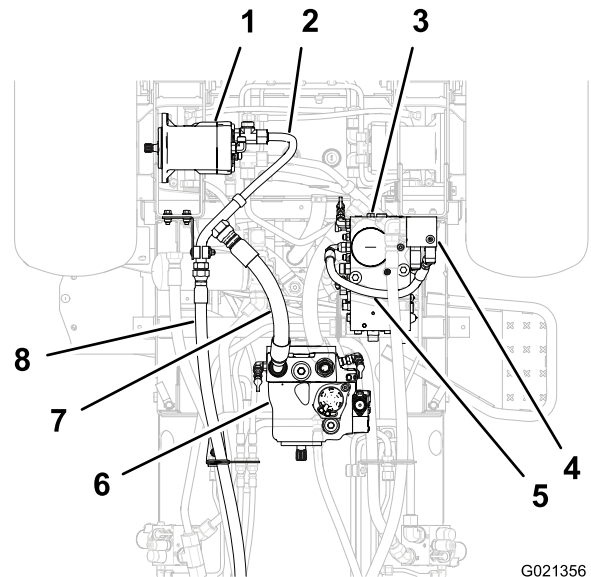

Figure 1
1. Align a drain pan below the forward end of the hydraulic-pressure hose (Figure 1).